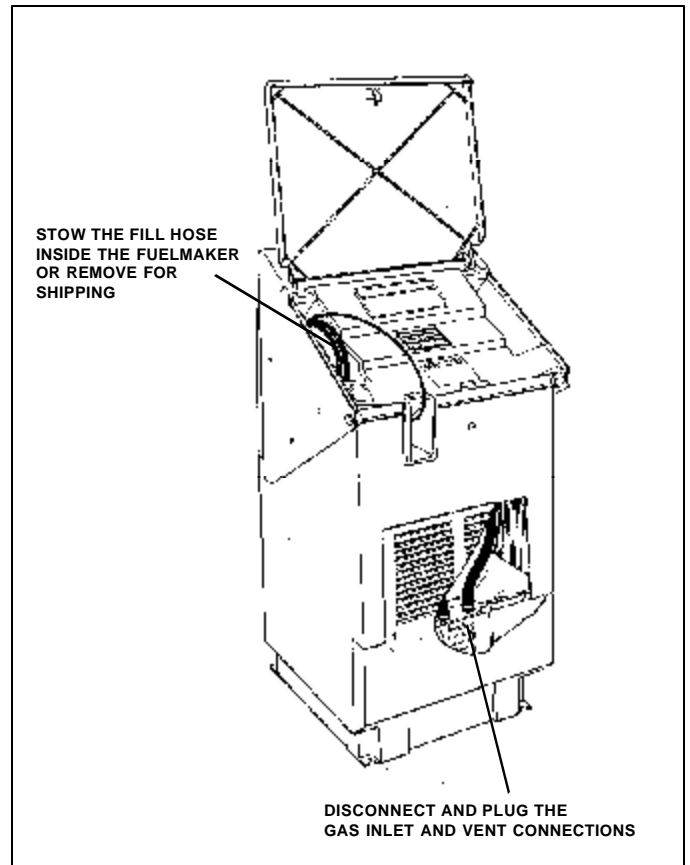

Figure 20 VRA Removal
- Plug the gas inlet and vent connections before transporting the VRA (See Figure 20).